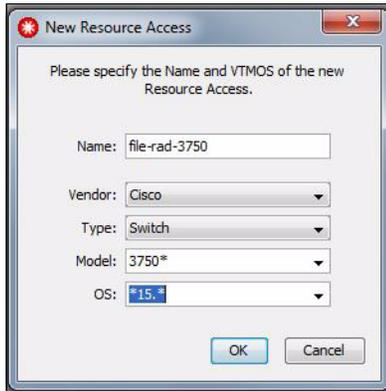

Figure 4-5 Resource Access Document VTMOs details
3. Create a RAD with the VTMOs of the target device. The VTMOs that was used in this case was Cisco Switch 3750* *15.*, as shown in Figure 4-5.